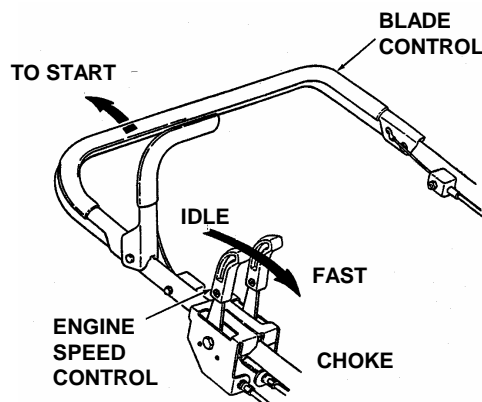

FIGURE 2.3
2. Move engine speed control to the "CHOKE" position. See Figure 2.3.